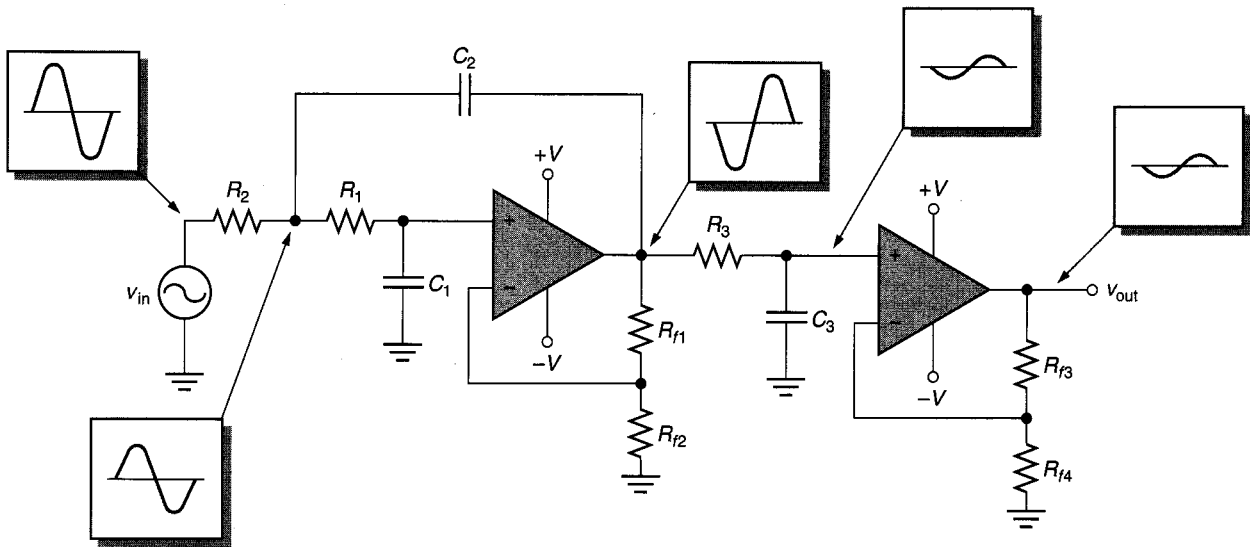

FIGURE 17.62
34. What fault is indicated by the readings in Figure 17.62? Explain your answer.